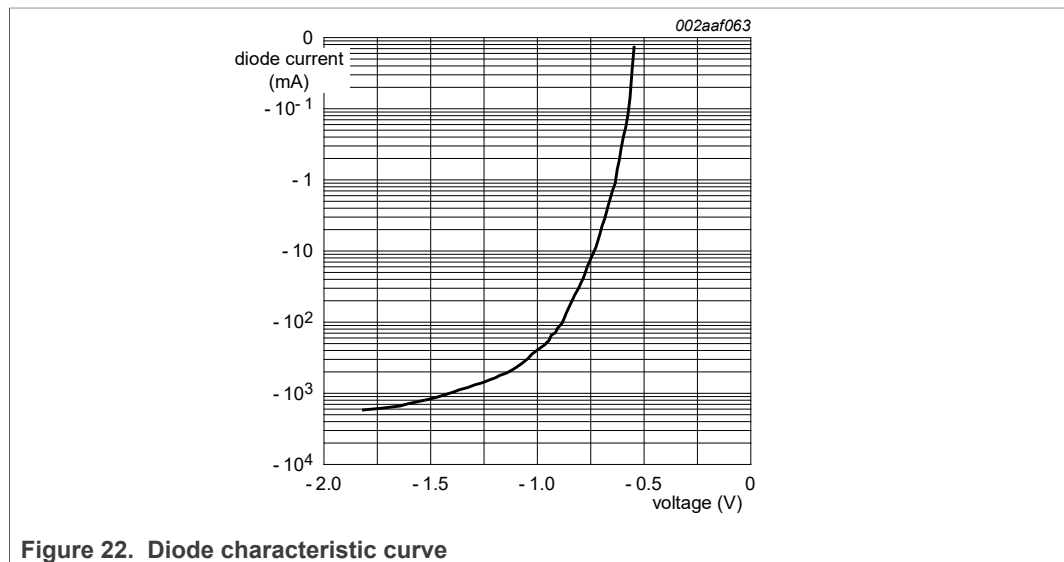

Figure 22. Diode characteristic curve
Figure 22 shows the measured characteristic for one of those diodes inside PCA9600. The plot was made using a curve tracer that applies 50 Hz mains voltage via a series resistor, so the pulse durations are long duration (several milliseconds) and are reaching peaks of over 2 A when more than -1.5 V is applied. The IC becomes very hot during this testing but it was not damaged. Whenever there is current flowing in any of these diodes
For the PCA9600, in specific applications, there will always be transient overshoot and ringing on the wiring that can cause these diodes to conduct. Therefore we designed the IC to withstand those transients and as a part of the qualification procedure we made tests, using DC currents to more than twice the normal bus sink currents, to be sure that the IC was not affected by those currents. For example, the TX/TY and RX/RX pins were tested to at least -80 mA which, from Figure 22, would be more than -0.8 V. The correct functioning of the PCA9600 is not affected even by those large currents. The Absolute Maximum (DC) ratings are not intended to apply to transients but to steady state conditions. This explains why you will never see any problems in practice even if, during transients, more than -0.3 V is applied to the bus interface pins of PCA9600.
Figure 22 also explains how the general Absolute Maximum DC specification was selected. The current at 25 °C is near zero at -0.55 V. The PCA9600 is allowed to operate with +125 °C junction and that would cause this diode voltage to decrease by $100 \times 2 \text{ mV} = 200 \text{ mV}$. So for zero current we need to specify -0.35 V and we publish -0.3 V just to have some extra margin.